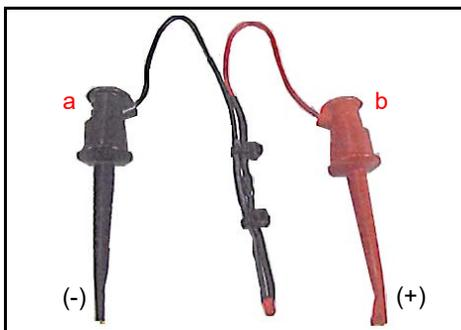

Figure 1 ICB Refresh Harness (P/N 400-000102R)
**Usage:** The JCM ICB® Refresh Harness (Figure 1) is used to refresh ICB Module Batteries that have been in storage for 6 months or longer, to achieve the proper voltage output of 3.45 VDC. Additionally, the Refresh Harness can be used for load testing of the ICB Module Battery (described on Page 2).
1. Connect the Refresh Harness' Black clip (Figure 1 a) to the Negative (-) terminal of the Battery.
2. Connect the Refresh Harness' Red clip (Figure 1 b) to the Positive (+) terminal of the Battery.